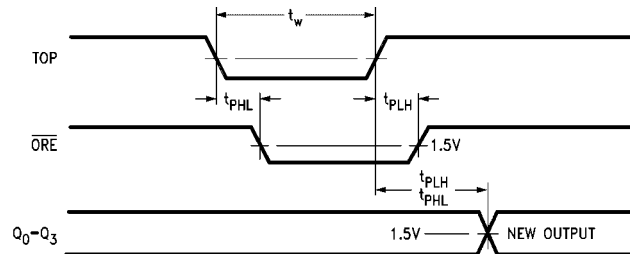

FIGURE 15. Parallel Output, 4-Bit Word or Master in Parallel Expansion
| t PLH              | Propagation Delay, Positive-GoingTOP to Q 0 –Q 3 Outputs                     | 8.0                                                                         | 35.0 | 7.0                                                                                | 38.0 | ns    | Figure 15              |
| t PLH              | Propagation Delay, Negative-Going$\overline{\text{TOS}}$ to Positive-Going $\overline{\text{ORE}}$ | 13.0                                                                        | 48.0 | 12.0                                                                               | 51.0 | ns    | Figure 15              |
| t W (H) | TOP Pulse Width                                                                                     | 14.0                                              |     | 16.0                                                     |     | ns    | Figure 15                                        |